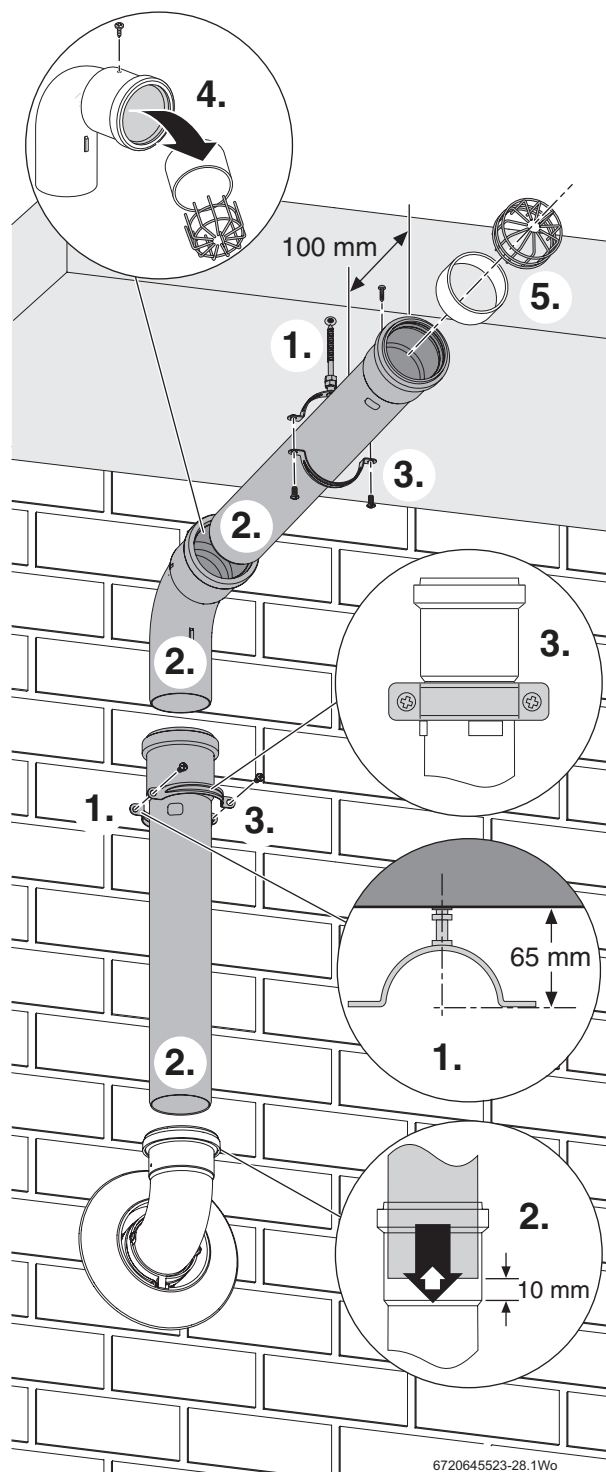

Fig. 50 Under balcony installation
1. Refer to figure 50 and mark the position for the wall clamp that coincides with the extension tube just below the top fitting. Drill a suitable hole and fit the wall plug. Screw the clamp into the wall plug as shown.